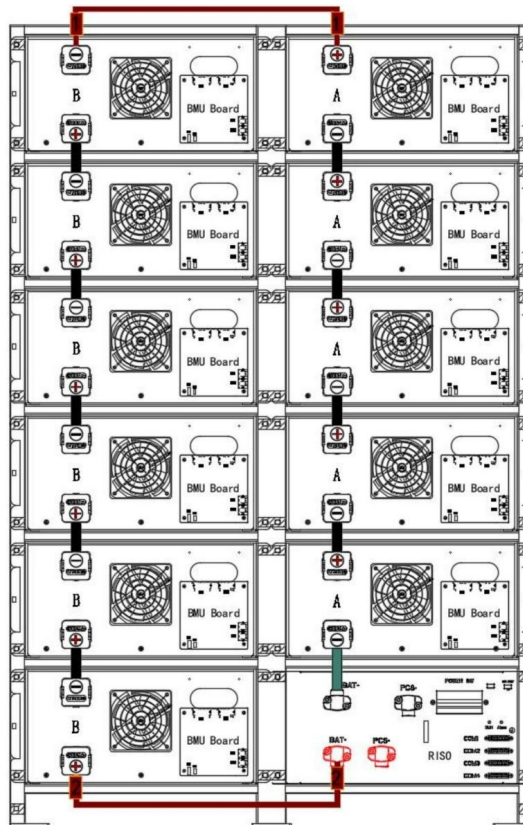

Figure 12 Battery pack DC cable/copper bar connection diagram
2). For example, the BR157R DC cable/copper bar connection diagram is shown in Figure 12, connect the No. 3 series copper bar to each cluster first, then connect the No. 1 serial DC cable, then connect the No. 4 serial copper bar, and finally connect the No.2 cable. Other specifications can refer to BR157R for connection.